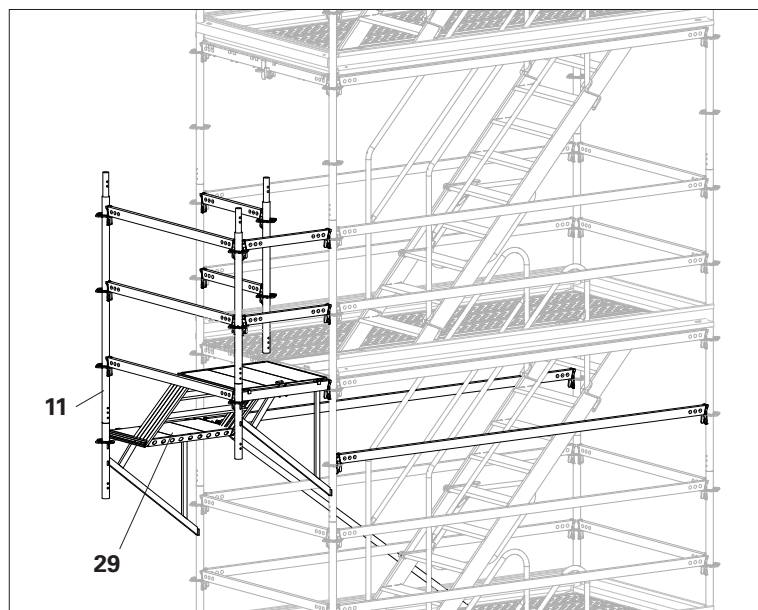

Fig. A8.05
2. Swap Flex Stair UAS-2 75 x 150/100 **(28)** for Flex Stair UAS-2 75 x 150/50 **(29)**. (Fig. A8.05)